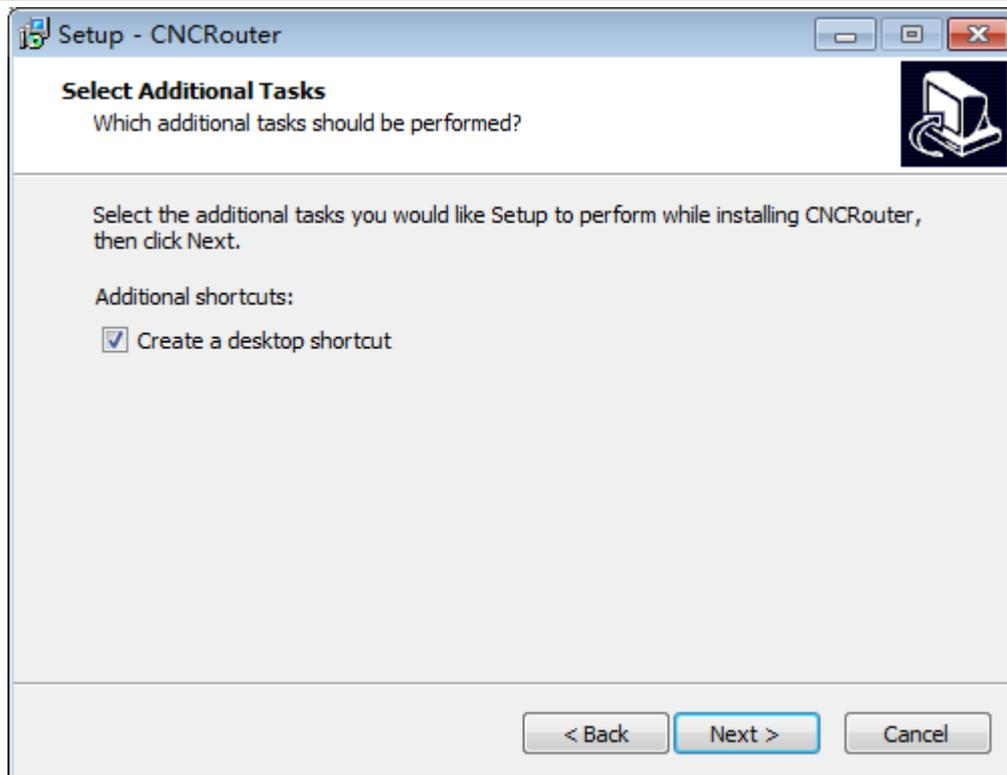

Figure 2.2-3
(5) Click next, setup prompts to select additional taskbar, in this dialog box you can choose whether to create desktop shortcuts, the program is created by default, you can click uncheck not to create shortcuts as shown in figure 2.2-3: